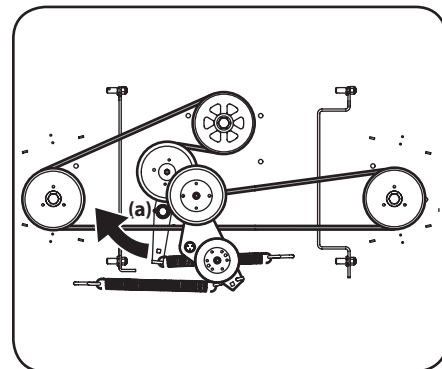

Figure 4-17
5. Using a 1/2" drive insert the end into the 1/2" square opening in the deck idler assembly (a) and rotate the deck idler assembly (a) clockwise. See Figure 4-17. While holding the deck idler assembly (a), loosen the deck belt from the pulley and slide the belt away from the pulley.
6. Route the new belt as shown in Figure 4-17. Then reinstall the deck and PTO belt as instructed on pages 24-25.